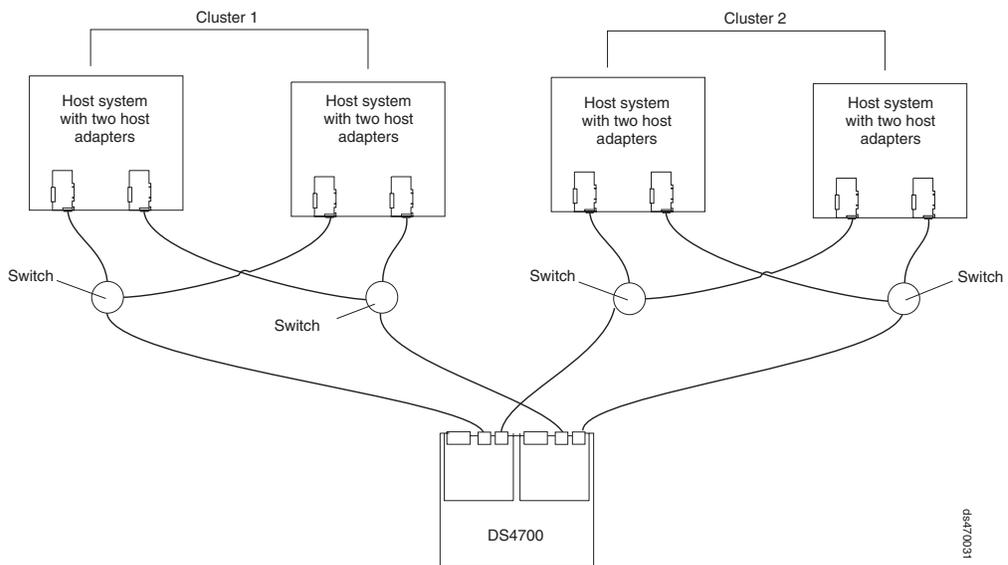

Figure 83. Example of a two-cluster configuration
- Two clusters, as shown in Figure 83 on page 102
Figure 83 shows an example of a two-cluster configuration.